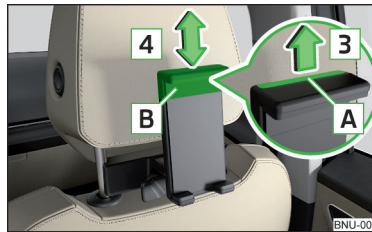

Fig. 136
- To **adjust the holder size**, pull out the securing tab **A** in the direction of arrow **3** and push the part **B** in the direction of arrow **4** to the desired position » Fig. 136.